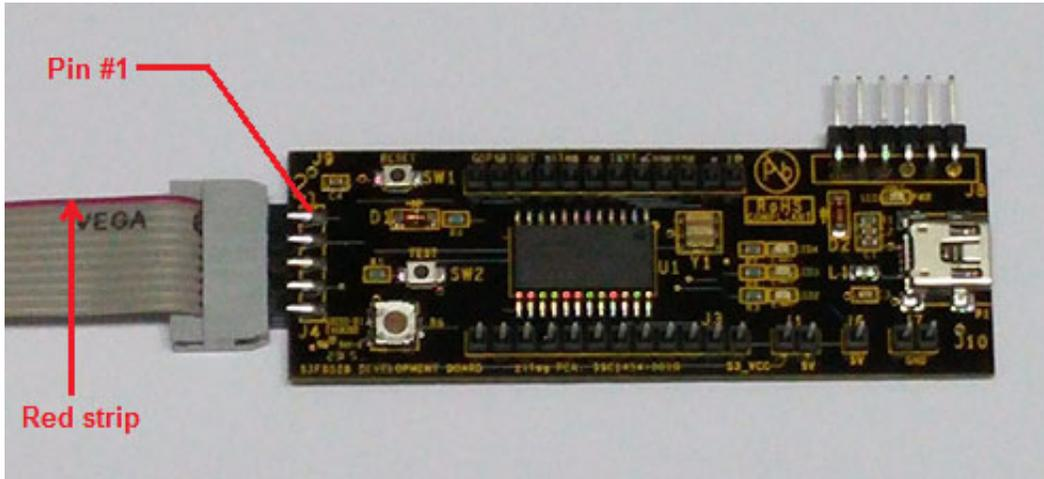

Figure 4. Debug Connectors J4 and J5
3. Connect the other end of the ribbon cable to Jumper J4/J5 on the Development Board. Ensure that Pin 1 on the ribbon cable is aligned with Pin 1 on the target connector, as indicated in Figure 4.